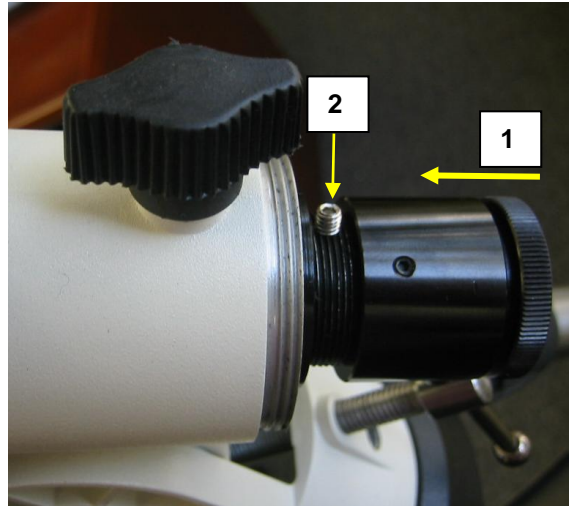

Figure 3. Install polar scope
3. Insert polar scope all the way into the scope housing, as shown in Figure 3. The polar scope will be tight fitted into the scope house. Secure the scope by lightly tightening the set screw. **DO NOT over tighten the locking screw.** It may damage the polar scope body and lens.